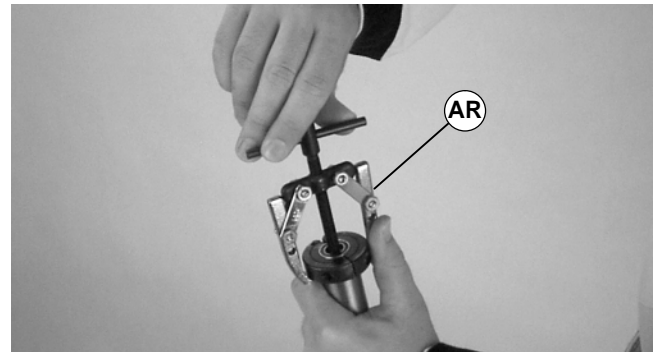

Figure 37
3. Using a puller (AR of Figure 37), remove and discard bearing(s).